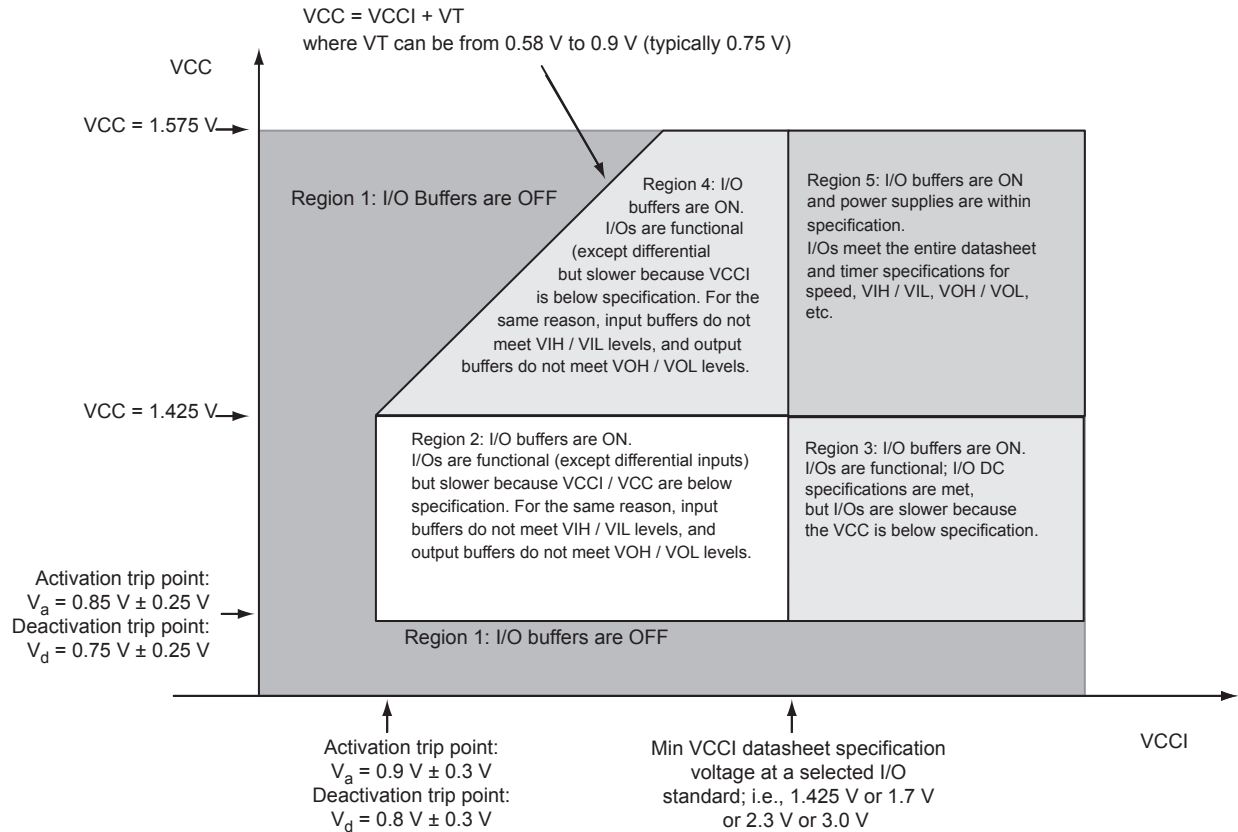

**Figure 2-1 • I/O State as a Function of VCCI and VCC Voltage Levels**
In addition, the I/O will be in a known state through the power-up sequence. The basic principle is shown in Figure 2-1 on page 2-4.
1. VCC and VCCI are above the minimum specified trip points (Figure 2-1 on page 2-4).
Microsemi recommends using monotonic power supplies or voltage regulators to ensure proper power-up behavior. Power ramp-up should be monotonic at least until VCC and VCCPLLX exceed brownout activation levels. The VCC activation level is specified as 1.1 V worst-case (see Figure 2-1 on page 2-4 for more details).